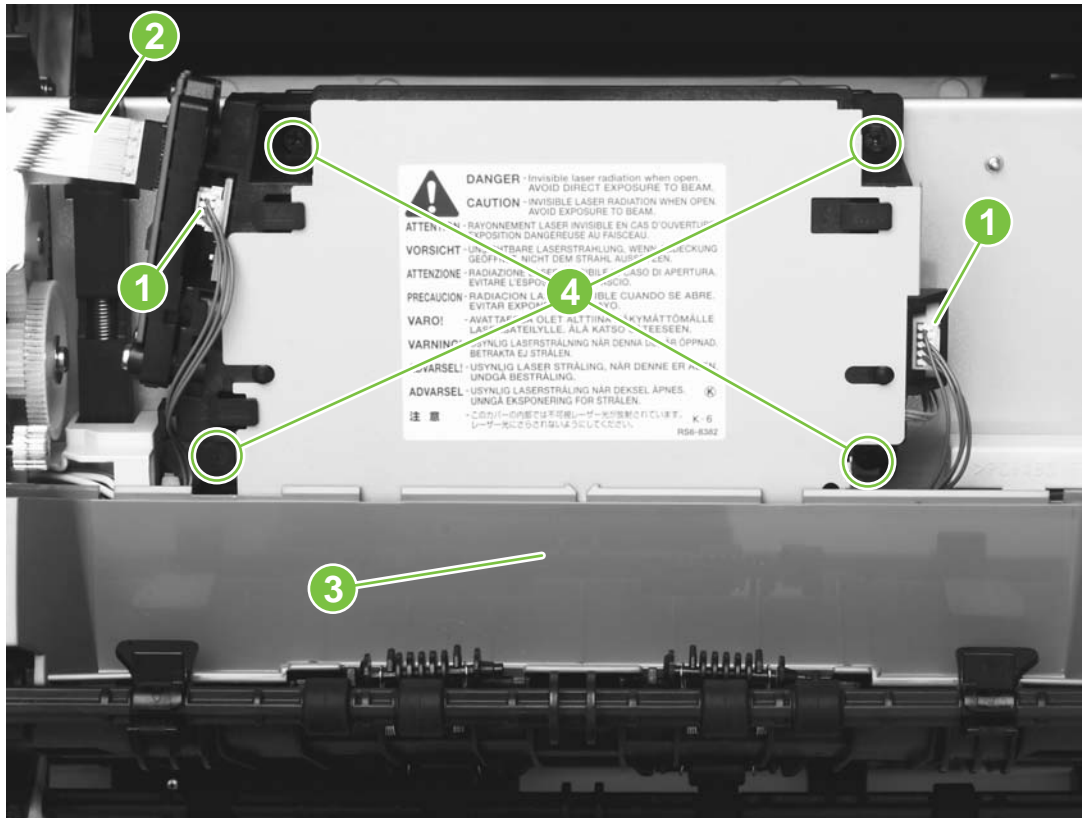
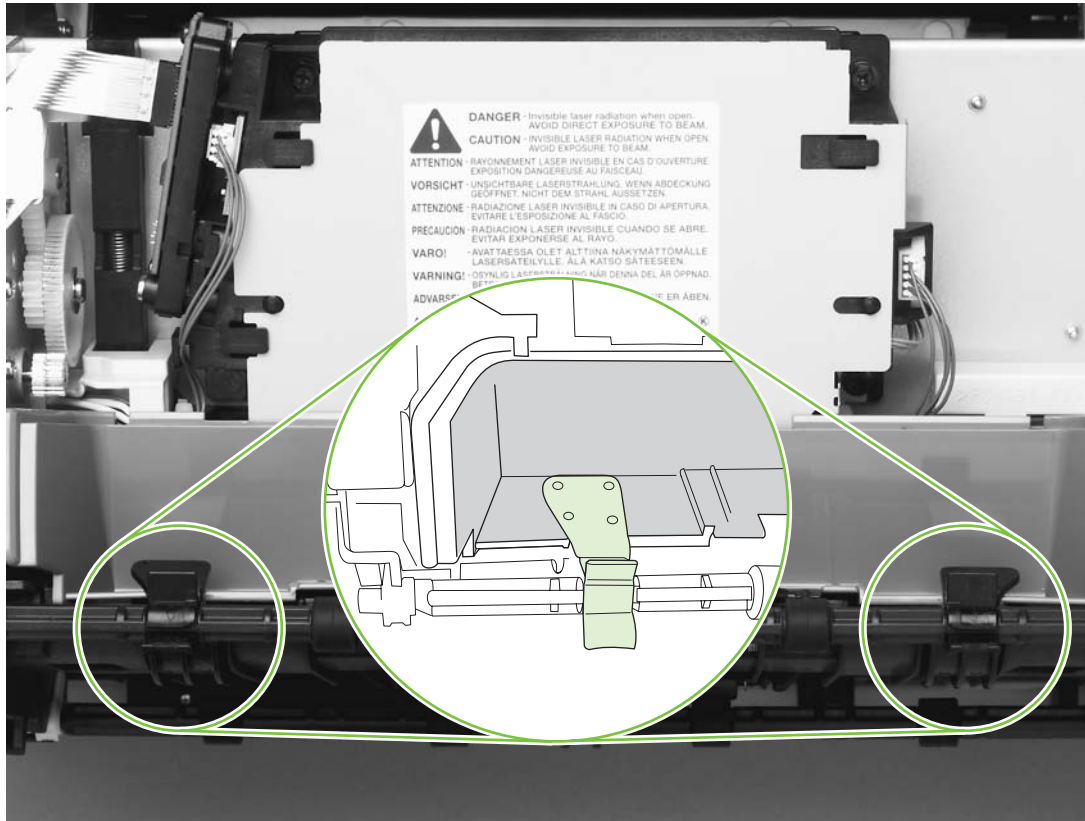

Figure 5-55 Remove the laser/scanner assembly
Figure 5-56 Reinstall the face-down cover
- 8 When reinstalling the face-down cover (callout 3 in Figure 5-55 Remove the laser/scanner assembly), place the two forming holders (on the upper face-down roller) on top of the cover, as shown in Figure 5-56 Reinstall the face-down cover.